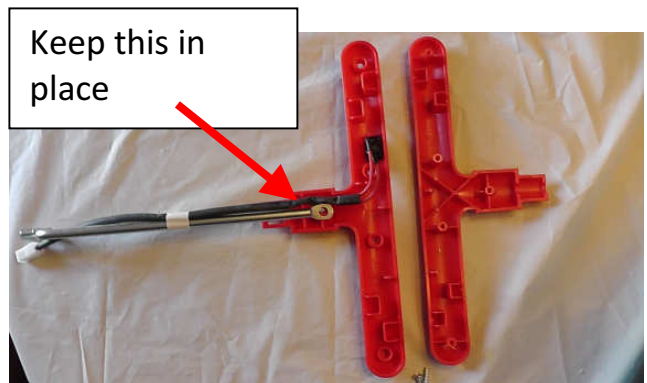

Fig. 13 Steering T-Handle
31) Locate the Steering T-handle from the car shipping box. Remove the 5 screws that hold the two halves of the handle together and separate them. **Fig. 13**